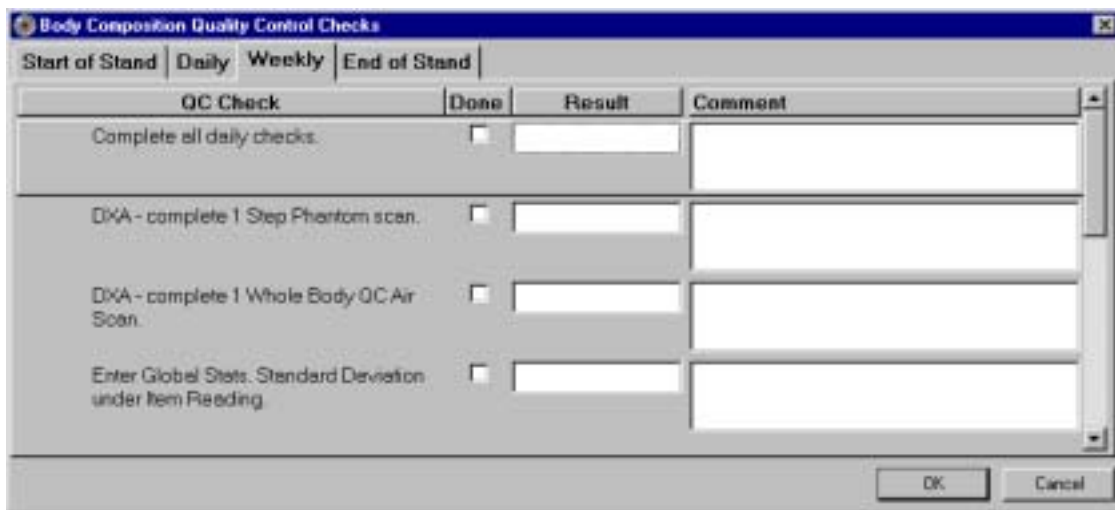

Figure 6-21. Quality control weekly checks (1)
- The Weekly QC Check Data Entry screen is shown in Figures 6-21, 6-22, and 6-23.